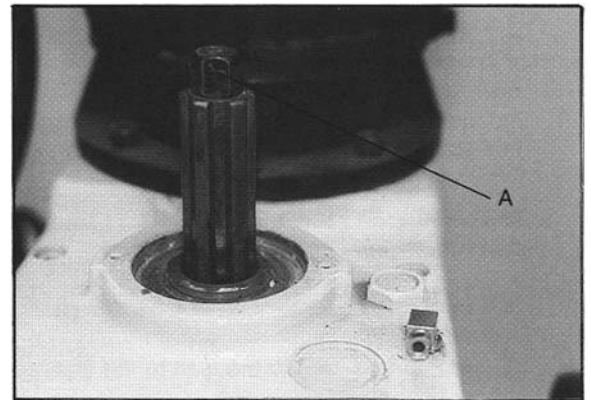

Figure 10
4. Use an adjustable wrench or box wrench to loosen the draw bar (A, Figure 10).